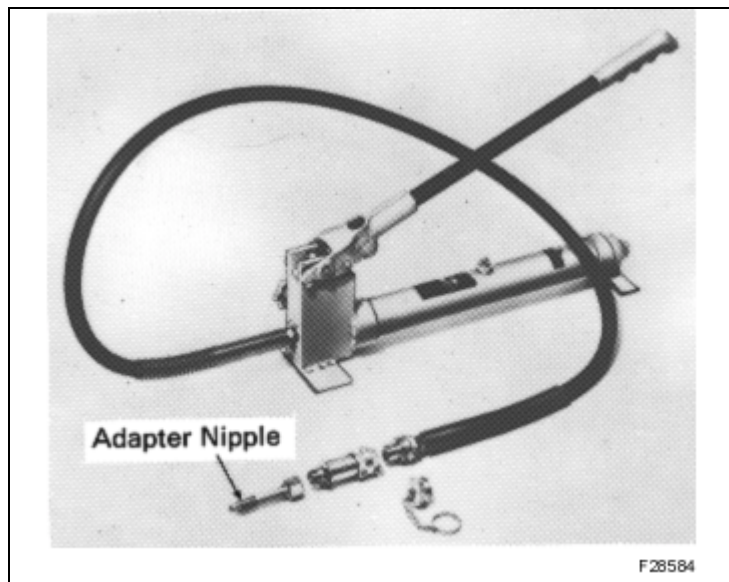

Figure 12 Hydraulic Pump
8. Screw a 1/8"-27 adapter nipple, Figure 12, into tapped hole in shaft, and tighten. Refer to Service Data for adapter nipple part number.
9. Connect hydraulic pump, Figure 12, to adapter nipple.